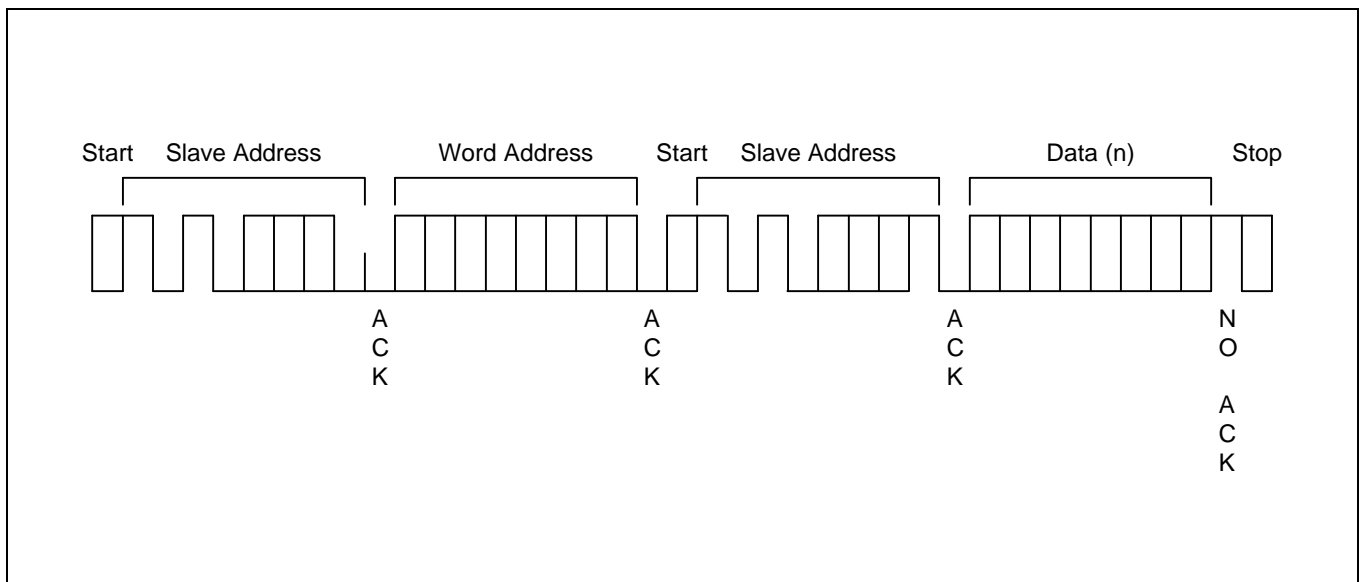

Figure 1-13. Random Address Byte Read Operation
5. In response, the S524A40X11/40X21/40X41/60X81/60X51 stops transmitting data and reverts to its stand-by mode (see Figure 1-13).